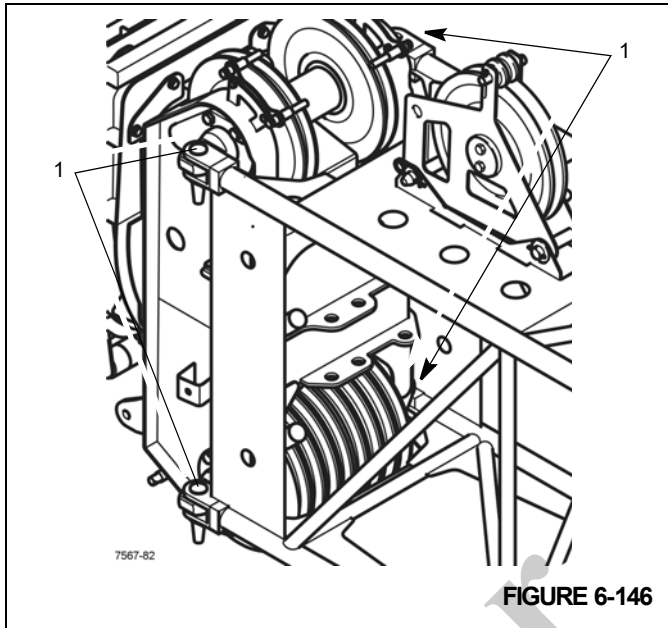

FIGURE 6-146
4. Lift the insert in front of the main boom head so that the four connecting points (1), (Figure 6-146) align on both sides.
6. Insert the pins into the connecting points (1), (Figure 6-146) and secure them with retaining clips.
5. Remove the pins from the connecting points (1), (Figure 6-146).